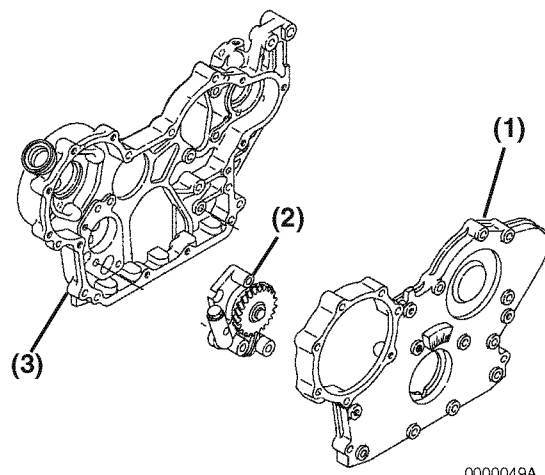

Figure 9-5
3. Remove the gear case cover (**Figure 9-5, (1)**) assembly.
4. Remove the oil pump assembly bolts. Remove the oil pump assembly (**Figure 9-5, (2)**) from the gear case housing (**Figure 9-5, (3)**).